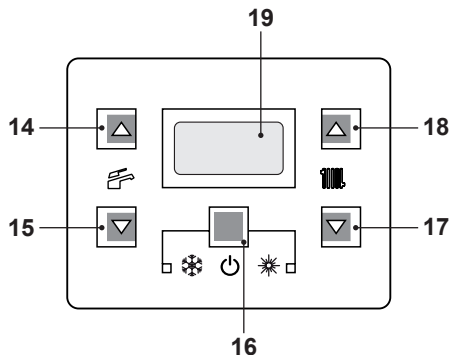

Fig. 8.31
- Enter the "programming mode" by sequentially pressing and holding in keys, 16 - 17 and then 18 (Fig. 8.31) for 10 seconds until the letters **Pr** that alternate with code **01** are displayed on the LCD display, indicating that "parameter 01" (Fig. 8.32) has been activated.
- Press keys 16 and 18 (Fig. 8.31) at the same time until the value of parameter 01 (65=**ADVANCE 25C**) is displayed on the LCD display (Fig. 8.33).
- Press keys 16 and 17 (Fig. 8.31) at the same time to exit without changing the value (return to the parameters list Fig. 8.32).
- Press sequentially keys, 16 - 17 and then 18 (Fig. 8.31) and hold in for 10 seconds to exit the "programming mode".